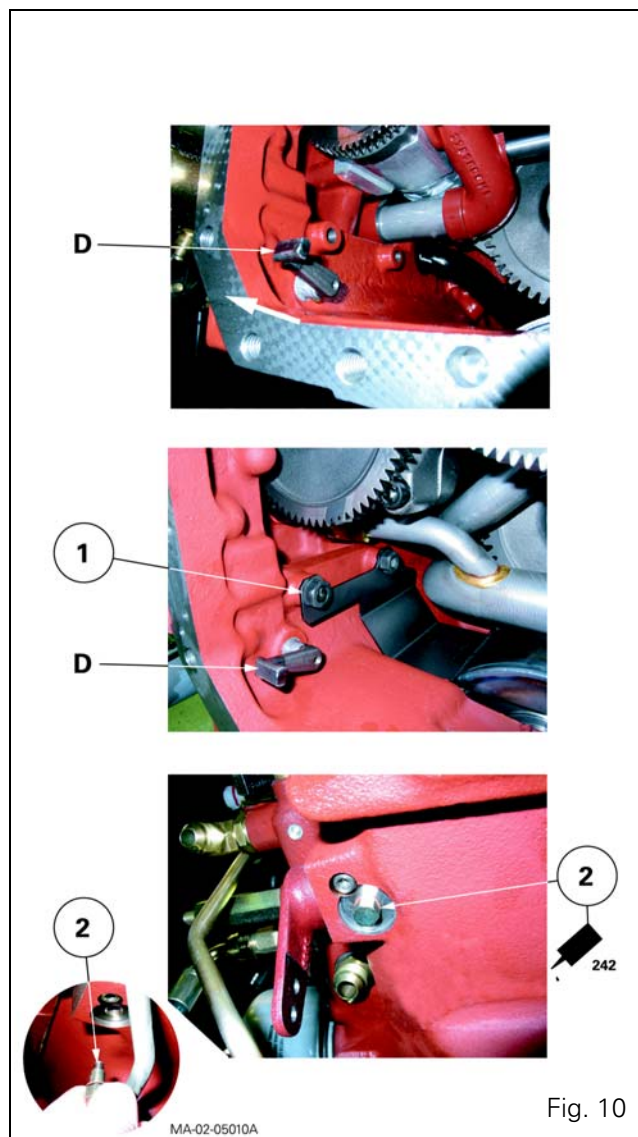

Fig. 10
The rotation of the control finger "D" of the creeper gears is limited by the presence of the studs and nuts assembly (1) in the centre housing. (Tractors with closed centre hydraulic equipment - Fig. 10).
39. Pull the pin (2) outwards (Fig. 2) and direct the "D" finger towards the front of the centre housing (Fig. 10).
Engage the "D" finger (Fig. 10) in the creeper gear fork and position the seal on the screw (2) (Fig. 10) after lightly smearing it with Loctite 242 or equivalent. Moderately tighten the screw.